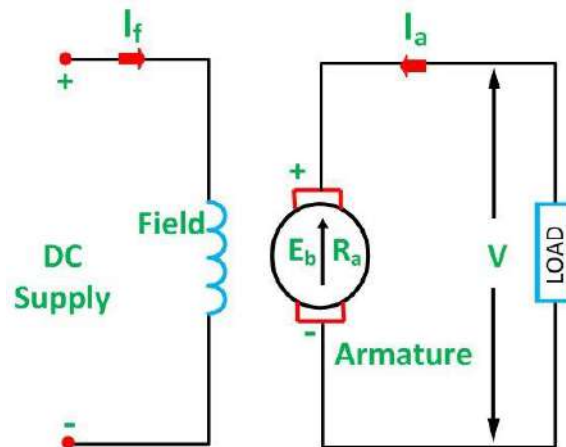

Figure.2.3. separately excited DC motor.
2.2.1. Separately excited DC Motor. The field coils or field windings are energised by a separate DC source as shown in the circuit diagram shown in figure 2.3. Here,